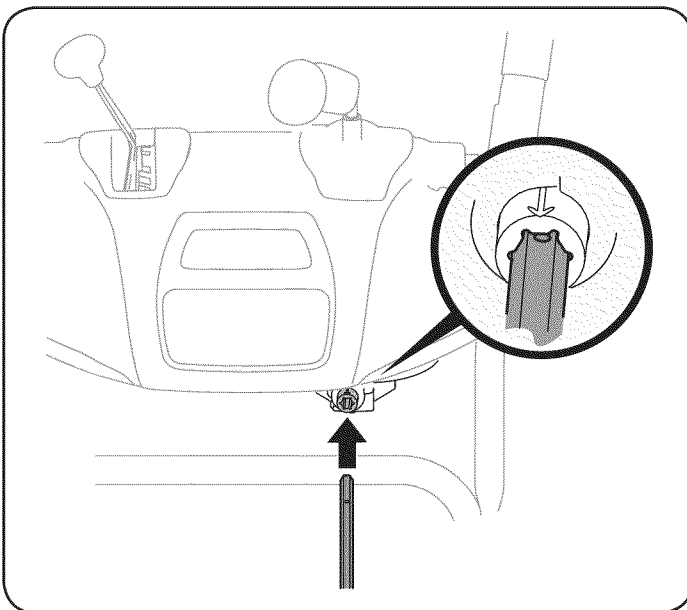

Figure 7
7. Insert the hex end of chute rod into the input shaft below joystick on handle panel. Make sure to line up the hole in the hex end of chute rod with the arrow on the input shaft. See Figure 7.